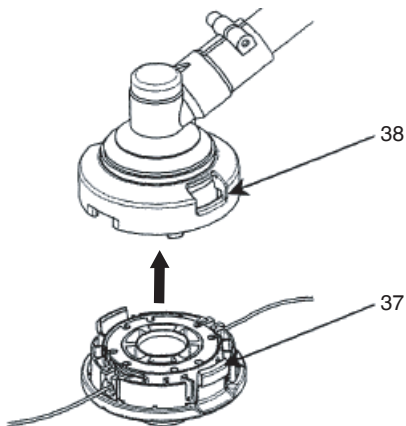

Fig. 33
- (6) Place the cover over the case so that the cap locking tabs (37) on the case meet the long holes (38) on the cover. Then push the case securely until it clicks into place. (Fig. 33)